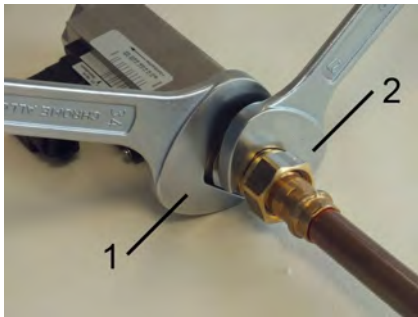

Fig. 10: Screw in the device
2. Fasten the adapter union of the pipeline with an appropriate spanner (Fig. 10/2). When doing so, lock the process connector in place to prevent slip, using a suitable spanner (Fig. 10/1).